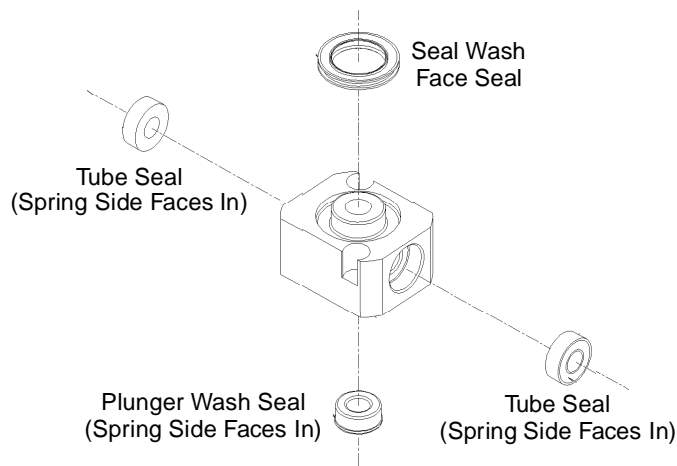

Figure 7-4 Seal-Wash Assembly Seals
2. Use the plastic end of the seal removal tool to remove the plunger wash seal from its seat. Repeat this procedure for each of the tube seals (Figure 7-4).
3. Use the plastic tweezers to remove the seal wash face seal (Figure 7-4).
5. Place the new plunger wash seal on the seal insertion tool with the spring side facing away from the seal insertion tool (Figure 7-4) and insert the tip of the tool into the seal opening, then push firmly to install the seal. Repeat this procedure for each of the tube seals.
6. Install the new seal (Figure 7-4) by pressing the seal into the cavity with your thumb.